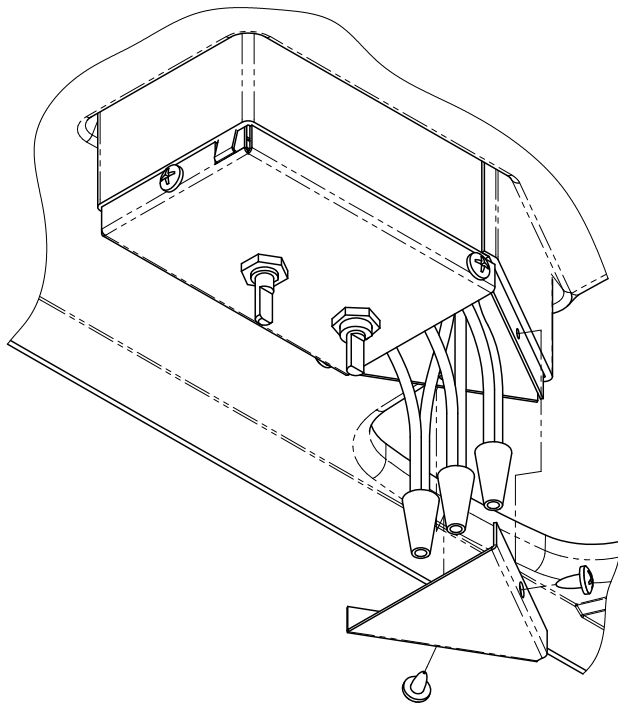

**FIGURE 11**
- D. Connect the supply power black conductor to the black pigtail wire, the white conductor to the white pigtail wire and the supply ground conductor to the green pigtail wire found in the wiring box using the 3 provided wire nuts. Using a U.L. approved electrical tape, secure the wire nuts in a workmanlike manner (See Figure 11).
- E. Press supply conductors and wire nuts into wiring box and making sure no wires are pinched, secure the wire box cover with 2 provided screws (See Figure 11).